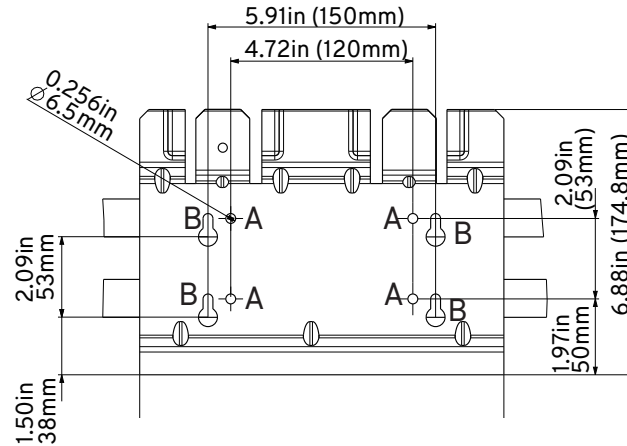

Figure 9: Dimension drawing of mounting plate
1. Mount the mounting plate to the wall with at least 4 screws and anchors (\emptyset 6mm). With 4 screws use 4 holes A or 4 holes B (see Figure 9). You can use the mounting plate as a template for marking the positions of the boreholes. Avoid installation on a non-load bearing wall.
This unit is designed to be wall-mounted. Please ensure the installation is perpendicular to the floor and the door can be opened easily. Do not install the device on a slanting wall. The dimensions of the mounting plate are shown in the figure 9.
1. Using the mounting plate as a template, mark four screw holes onto the wall. Use the four holes that are indicated for this purpose in the figure 9. Make sure the holes are in the center of each stud before marking the drill location.
5. With at least one person on each side of the GM Energy Home Hub, lift it up and place it carefully onto the mounting plate. Install two #12-24 Anchors as shown in the figure 9 to secure the device.